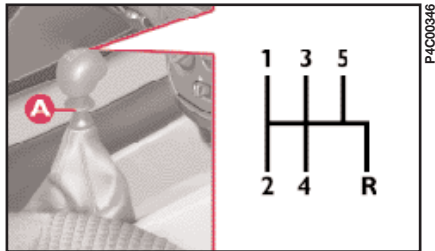

fig. 2
To engage the gears, press down the clutch and put the gear lever into one of the positions shown in the diagram (fig. 2) (the diagram is also on the gear lever knob).
To engage reverse (R), wait for the car to come to a standstill. From neutral, lift the sliding ring A (fig. 2) under the knob and shift the lever to the right and backwards at the same time.